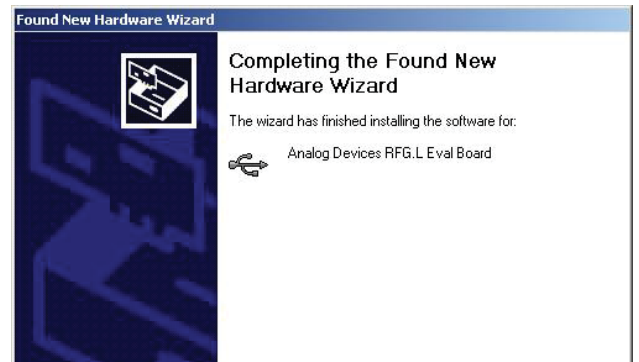
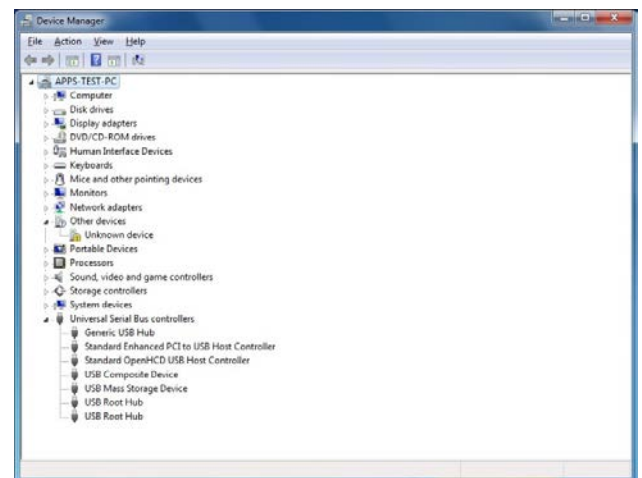

Figure 6. Successful Installation
Figure 7. Device Manager
Added Figure 5, Figure 6, and Figure 7; Renumbered
If the installation is successful, the message in Figure 6 appears.
1. Find the new unknown device (the evaluation board) in **Device Manager** and double-click it to open the properties. The device should be **Unknown device**, under **Other devices** (see Figure 7).